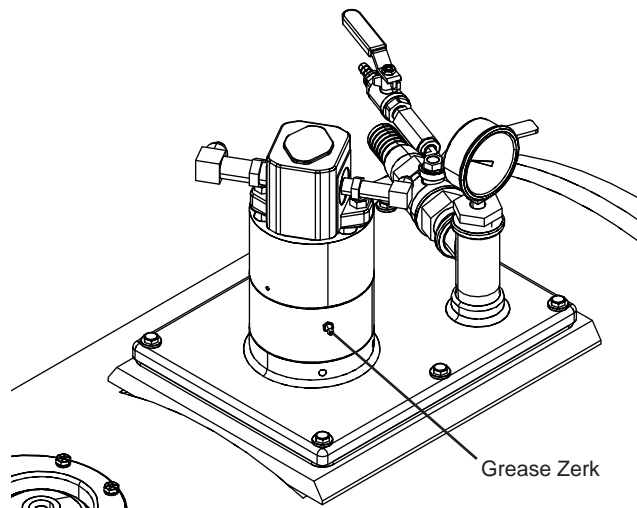

Figure 4
5. Check for and correct any external oil or air leaks. Check hydraulic hoses and tubes for cuts, abrasions and clearance. NOTE: Do not tighten or loosen any connections while system is under pressure. Check oil level in hydraulic reservoir and add oil if oil is below gauge level. See Figure 4 above for sight gauge location.